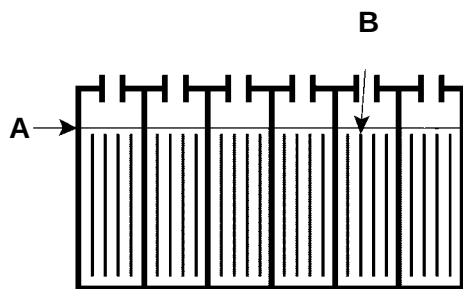

FIG. 21
4. Check fluid level (A) in each battery cell. Do not charge batteries unless fluid is slightly covering battery plates (B). If needed, add just enough distilled water to slightly cover plates. **DO NOT** overfill. Batteries can overflow during charging due to expansion. Replace cell caps before charging (Figure 21).